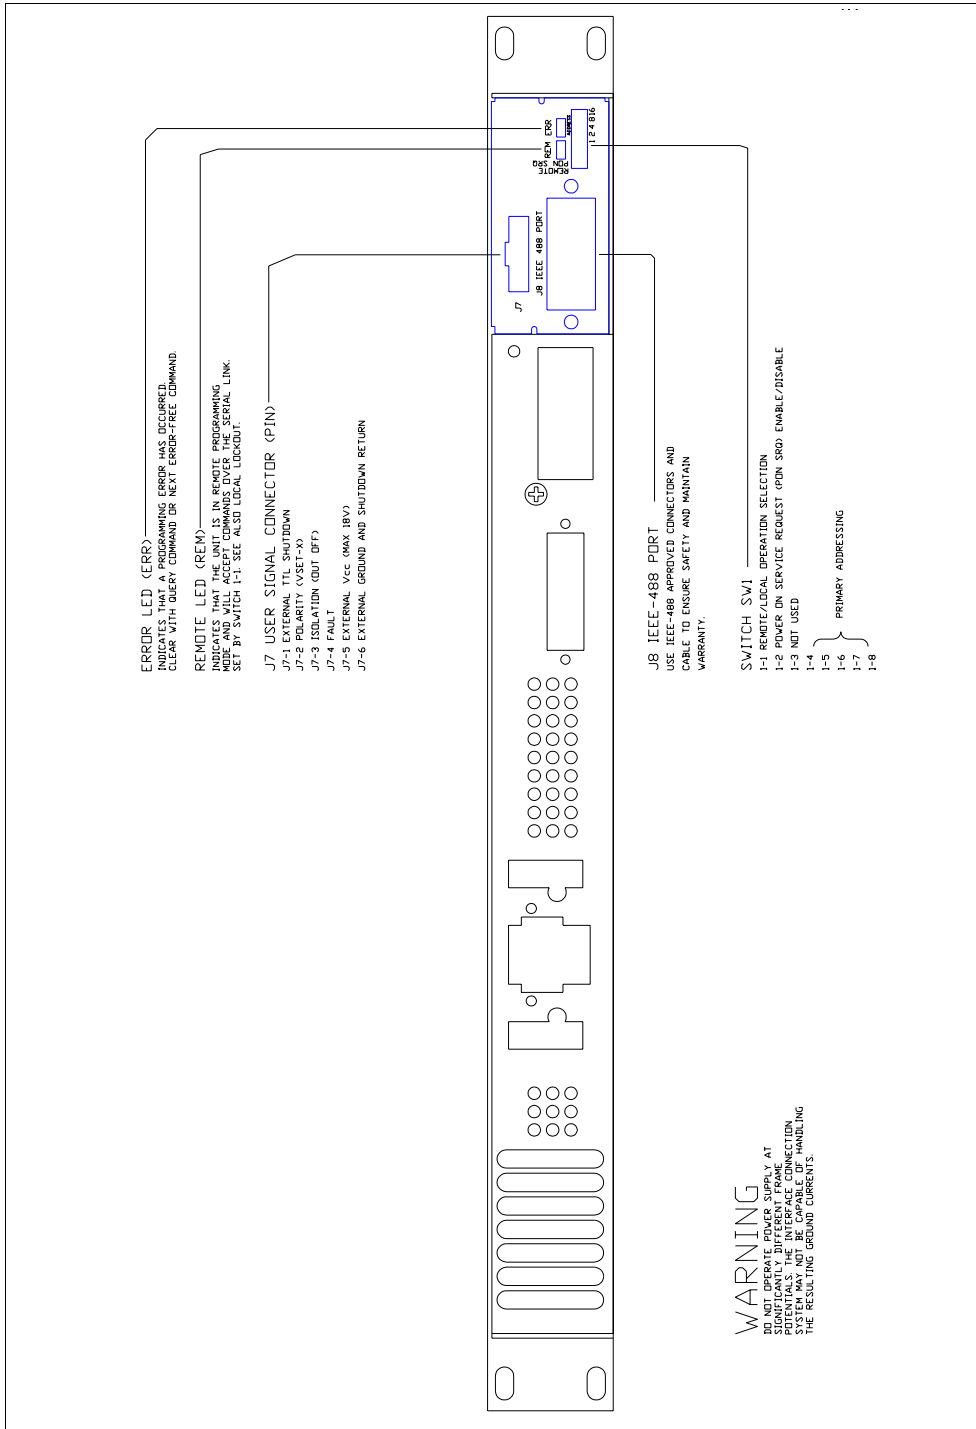

Figure 2.3 1kW Power Supply Rear Panel with GPIB Interface Installed
2. Locate switch SW1 on the GPIB interface rear panel. See Figure 2.3, pg. 18 or Figure 2.4, pg. 19 for the rear panel drawings.
Use the rear panel Remote/Local switch SW1-1 to toggle between remote and local operation without losing programmed values. To locate the switch, refer to the Figure 2.3, pg. 18 and Figure 2.4, pg. 19.